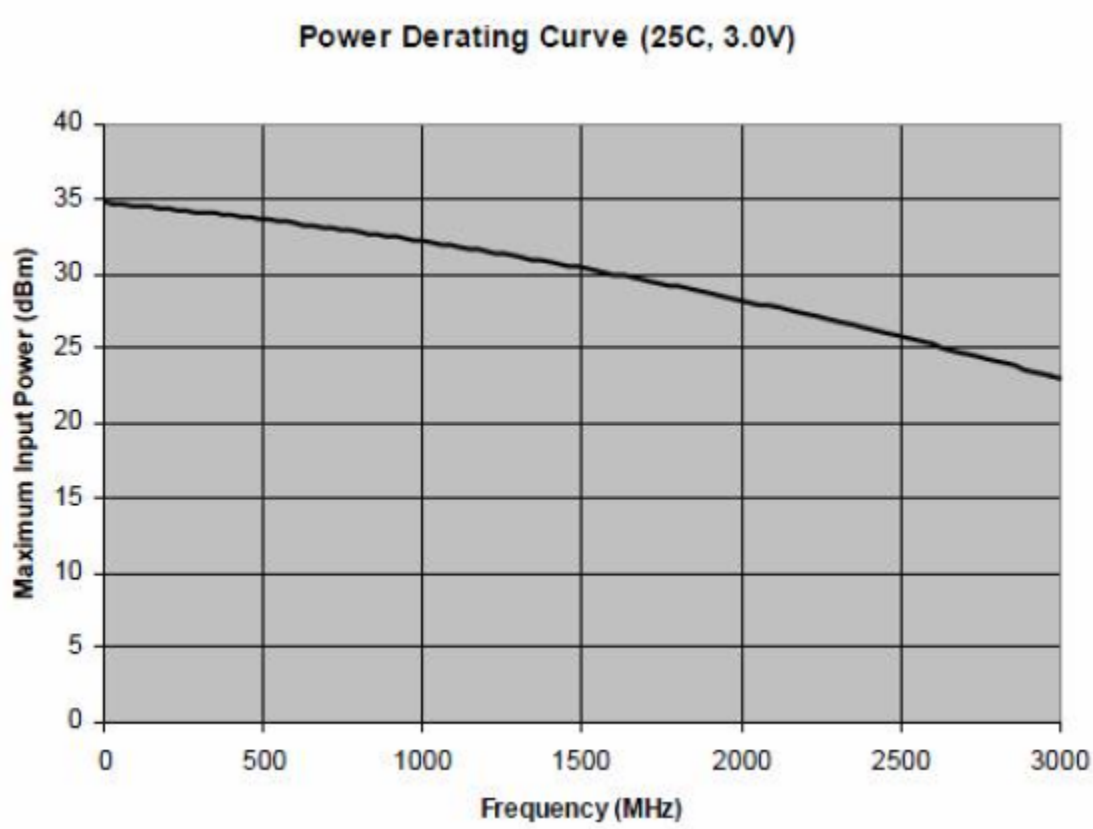

Figure 2. PE42421 power de-rating curve
-  1. To maintain the optimum system performance, do not exceed the maximum input power (P_{IN}) at the preferred operating frequency, as shown in Figure 2.